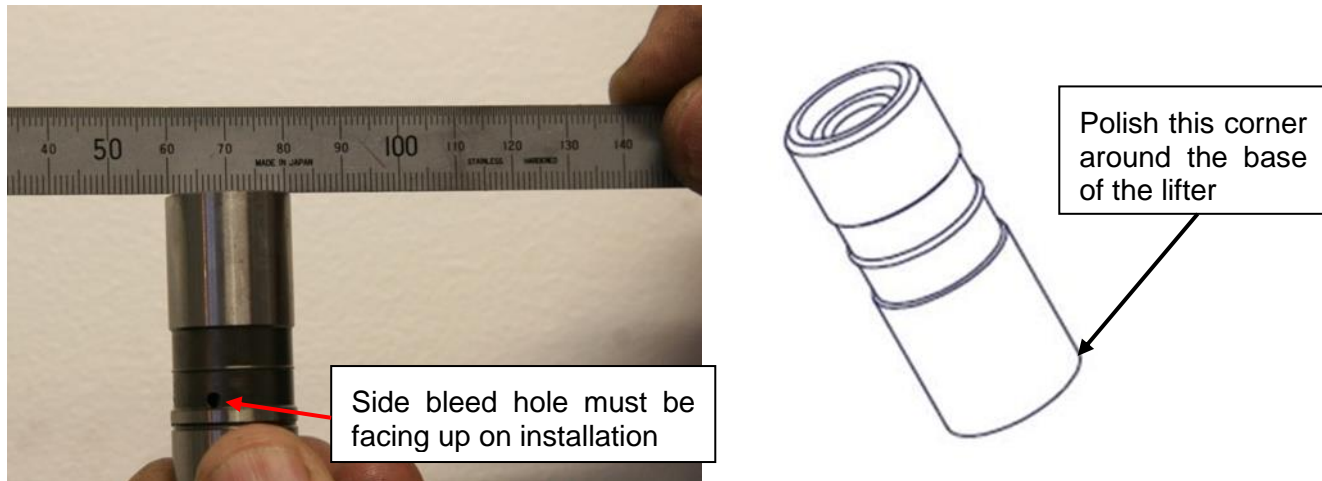

Figure 76 – Hydraulic Lifter Inspection
- If hydraulic lifters are removed for servicing they must be inspected for wear on the camshaft contact face. Note that the lifters have a slightly convex (dome-shaped) base. A straight edge placed over the base (Figure 76) should not quite sit flat on the base – a small gap must be visible at either side. A lifter which has worn flat must be discarded. The lifter must also be replaced if there is any other adverse wear of the lifter base – such as galling or pitting of the working surface.